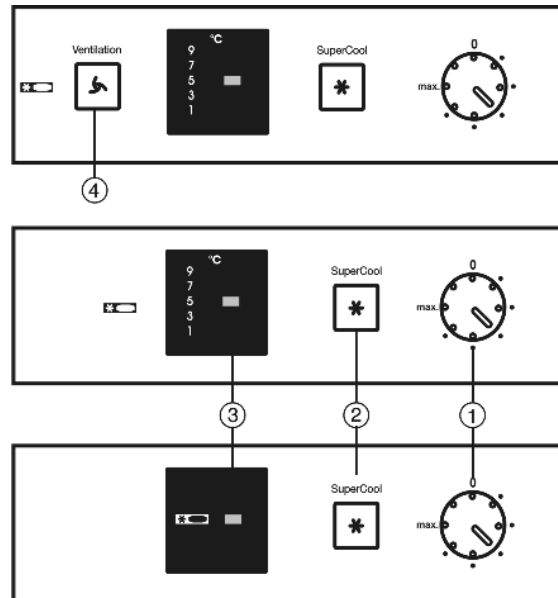

Fig. 2
- ▶ Turn the temperature control *Fig. 2 (1)* with a coin to the right.
- Turn the temperature control *Fig. 2 (1)* with a coin until the temperature wanted shines in the temperature display.*
- Turn the temperature control *Fig. 2 (1)* with a coin.*